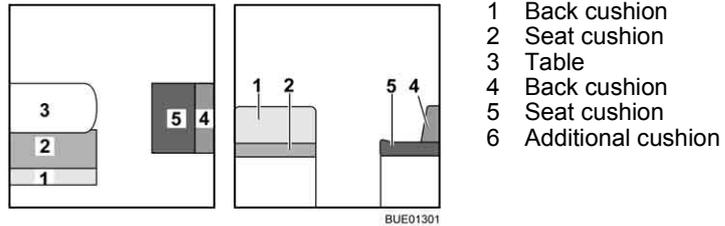

Fig. 118 Prior to conversion
- Convert the table (Fig. 118,3) to a bed foundation (see section 6.10).
- Remove the back cushion (Fig. 118,1) and lay it aside.